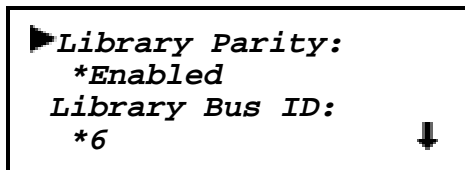

Figure 2-26 Set SCSI Submenu
- To select a configuration option, press the **▲** or **▼** button on the control panel until the **▶** on the display is next to the option you want to change. In this case, let us choose Set SCSI. Press the **Enter** button to display the choices for that option. The submenu in Figure 2-26 appears.
Note: Take a moment to look closely at the submenu in Figure 2-26. Note that the ► on the display is next to line 1, *and* that line 2 is indented. This tells you that Figure 2-26 is a *two-tiered menu*. The ▲ and ▼ buttons work on two levels in this kind of menu, which is typical of many submenus of the Configure Menu. The first level is as follows: If you press the ▼ button, the ► moves to line 3. If you press the ▲ button, the ► moves back to line 1.